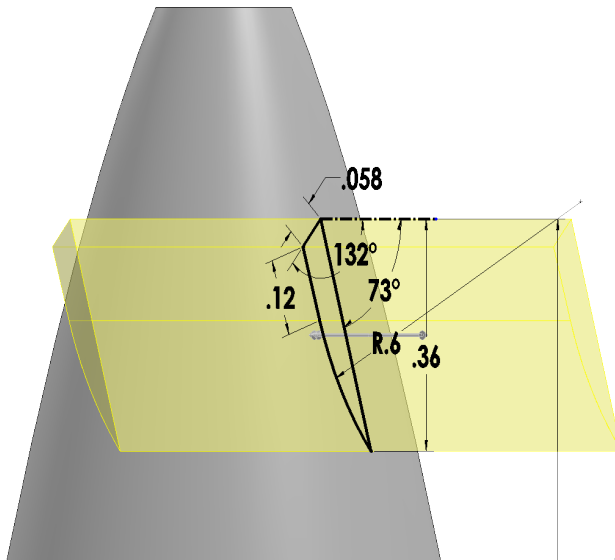

Fig. 34
Step 12. Use **Left Arrow** key on keyboard to rotate view slightly, **Fig. 34**.